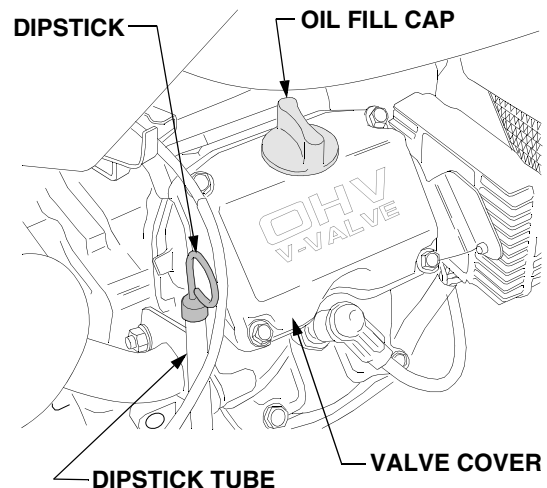

Figure 52
- Check the oil level only while the engine is stopped and the tractor is level. Clean the area around the oil level dipstick to prevent debris from entering the crankcase. See Figure 52.
- To check the oil level, withdraw the dipstick and wipe it clean; then insert the dipstick all the way into the tube before withdrawing it for a true reading. See Figure 52.
- Clean the area around the oil filler cap to prevent debris from entering the crankcase. Refer to Figure 52.
- Remove the dipstick and oil fill cap from the engine. Refer to Figure 52.